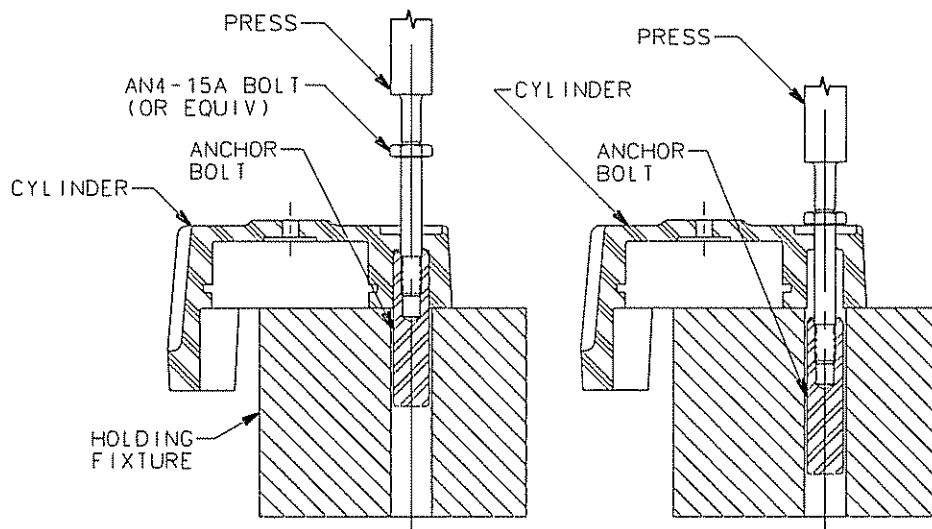

Figure 102
- J. If necessary, the anchor bolts may be removed by using a holding fixture and arbor press. If possible, place the anchor bolts into the holding fixture so that the anchor bolt is piloted while being removed. (See Figure 102). Thread an AN4-15A (or equivalent) bolt into the anchor bolt. Press out the anchor bolt and unthread the AN4-15A bolt from the anchor bolt. See Figure 102.